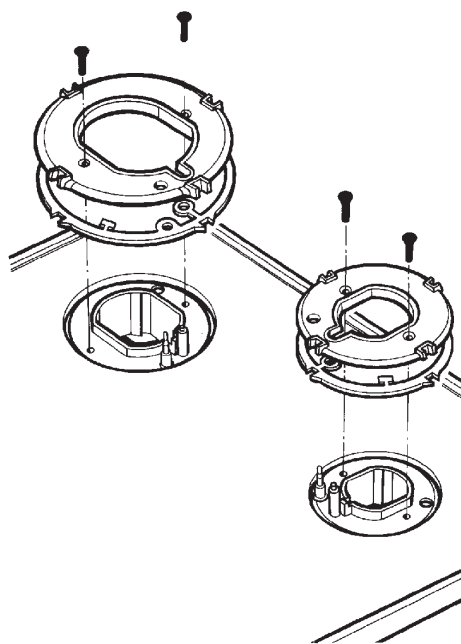

Fig. 1
4. Remove the two fixing discs and gaskets by removing the four (M3) fitting screws (2 from each burner). (See Fig. 1).